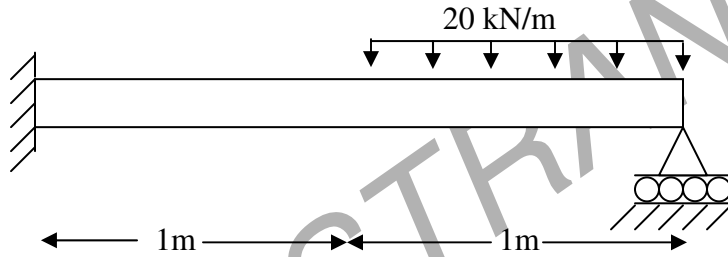

Figure: 3
6. Consider a cantilever beam with uniform distributed load as shown in Figure: 3. Estimate the deflection at the end of the beam. $E = 100\text{ GPa}$; $A = 500\text{ mm}^2$; $I = 2000\text{ mm}^4$. [16]